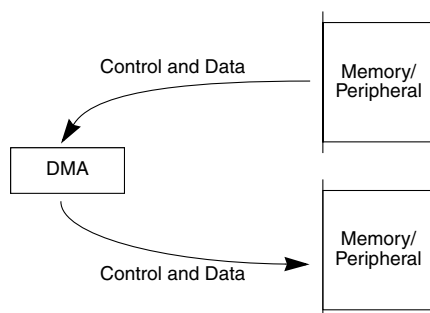

**Figure 12-3. Dual-Address Transfer**
- **Dual-address transfers**—A dual-address transfer consists of a read followed by a write and is initiated by an internal request using the START bit or by an external device using  $\overline{\text{DREQ}}$ . Two types of transfer can occur, a read from a source device or a write to a destination device; see Figure 12-3.